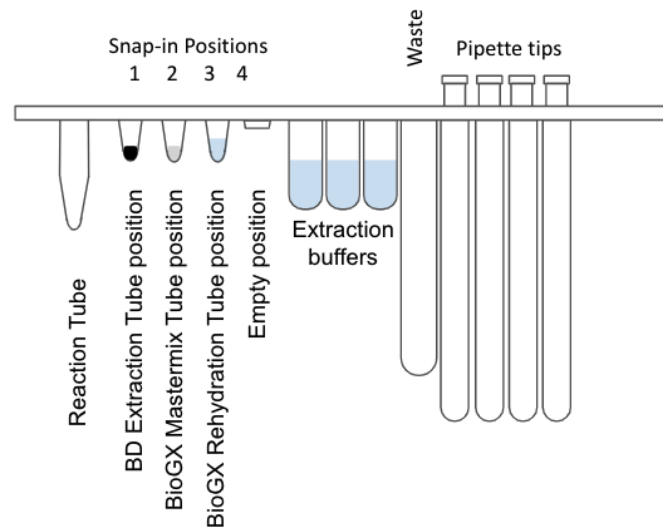

Figure 1. Diagram of BD MAX™ ExK™ 4-snap Unitized Reagent Strips
3. Snap one BD MAX[™] ExK[™] DNA Extraction tube into snap-in position 1 (Snap-1) of each extraction strip (**Figure 1**).